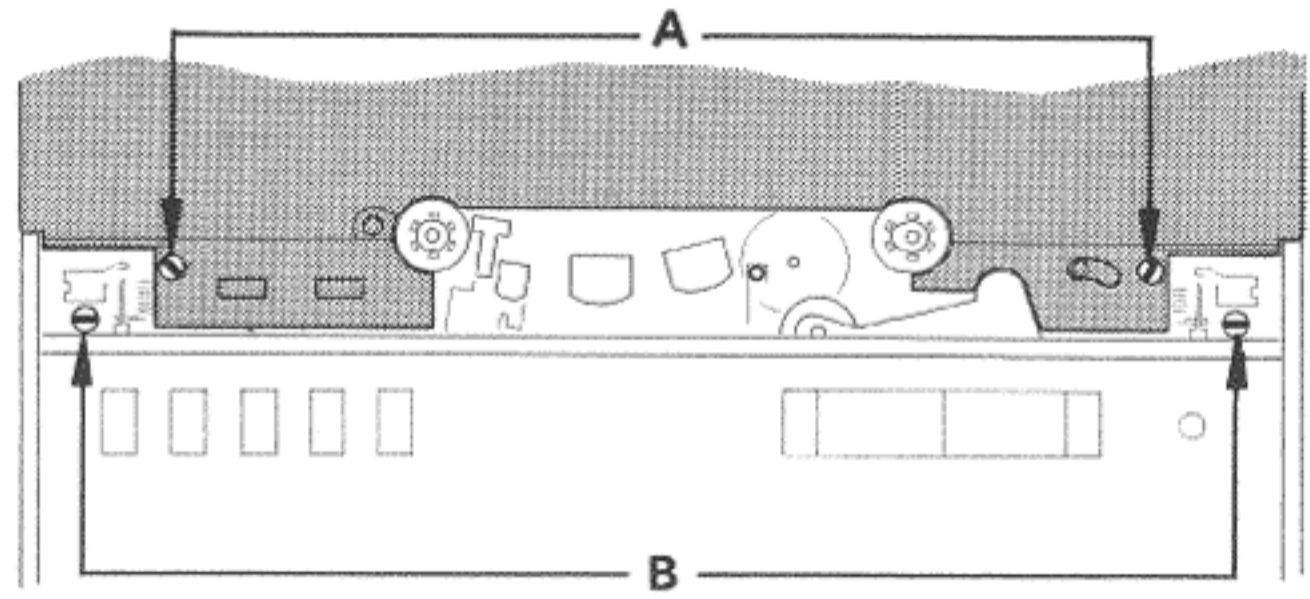

Fig. 3.2–4
- Undo screw A (fig. 3.2 –4). Pull cover panel off (Upper rim, 3 retainers).
- Undo screws B (fig. 3.2 –4). Pull out power switch knob as well as all rotary knobs and discs. Save retaining ring of power switch.